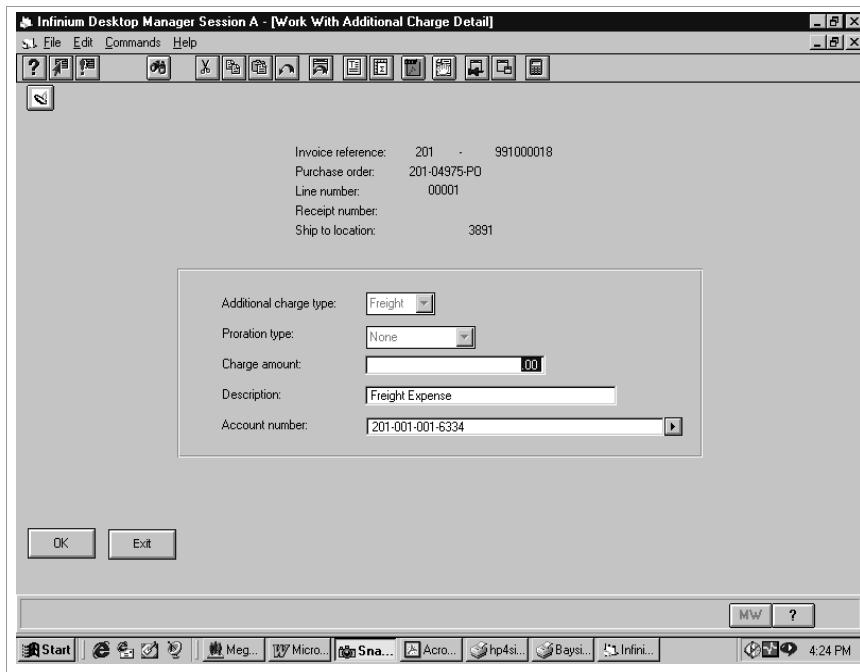

Figure 6-12: Work With Additional Charge Details screen
- 1 Specify **Freight** or **Other** to create freight or other miscellaneous additional charges. Press Enter. The system displays the screen shown in Figure 6-12.